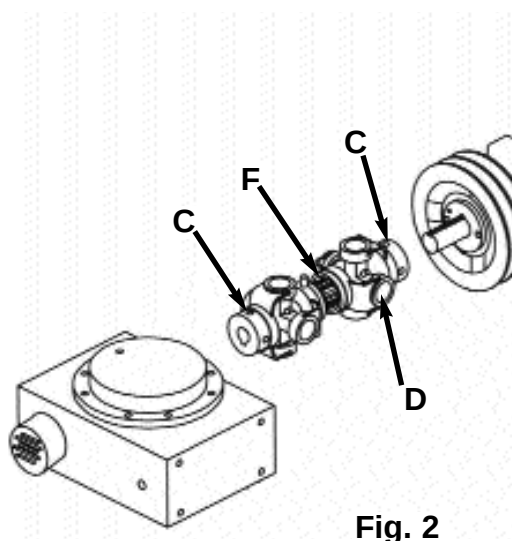

Fig. 2
3. Loosen set screws(C) where the u-joint couples to the drive shaft. (refer to fig. 2)
4. Slide u-joint(D) off the drive shaft to create a gap in the drive line to allow removal of belts through gap. (refer to fig. 2)
5. Install new belts through gap and reverse process to tighten new belts. **Be sure to reset the gap between the U-Joints to between 3/64 to 3/16(F).** (refer to fig. 2)